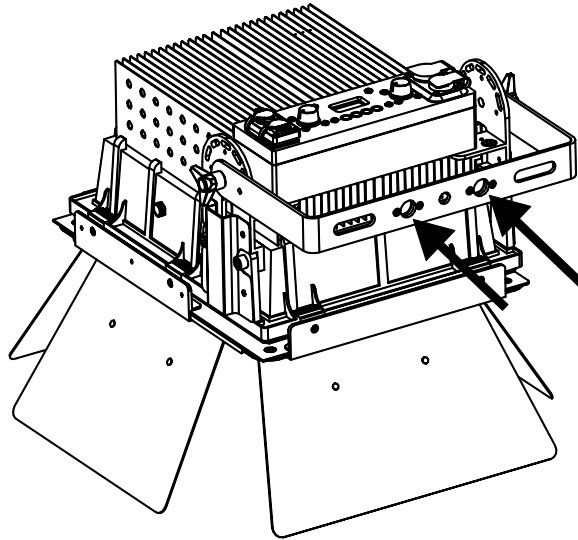

Figure 3. Omega bracket fasteners
2. Line up the fasteners of the Omega bracket with the holes in the mounting bracket of the MBL40 as shown in Figure 3.